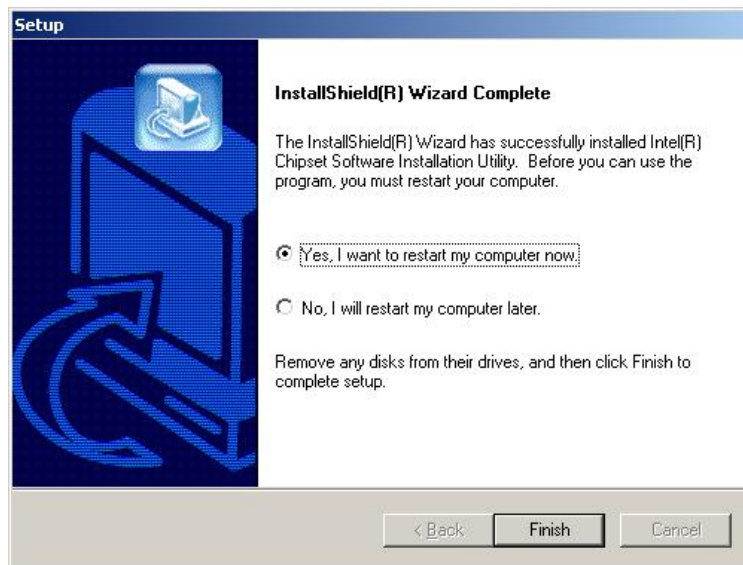

Figure 7-5: Restart the Computer
Step 6: Click “YES”. The driver is installed on the computer. After the installation is complete, the installation complete screen shown in **Figure 7-5** appears. Select the preferred option and click “**FINISH**” to complete the installation process.